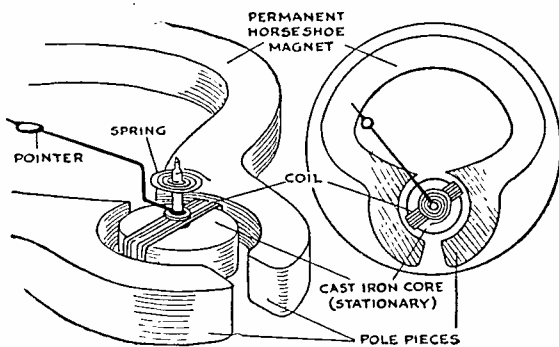

FIG 23
**F**ROM time to time in your radio work you will find it necessary to make certain electrical measurements. This will be particularly true if you extend your hobby into the spare-time servicing of ailing receivers. Unknown resistances must be made known, voltages must be measured, and various amperages must be tested. In this part of your work, the electric meter will serve as your yardstick. Figure 23 clearly illustrates the working parts of this very useful meter.